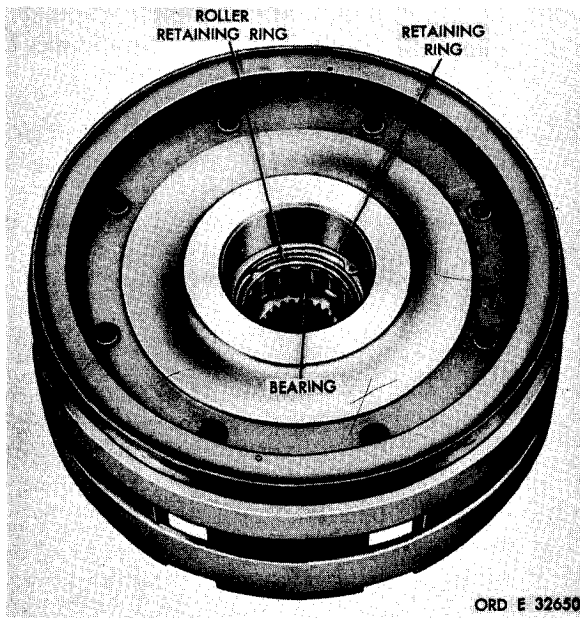

Figure 231. High-range clutch housing
i. Do not remove the roller bearing from the clutch housing, unless parts replacement is necessary. If necessary, remove the retaining ring and "hook" the bearing out (fig. 231).
Note. The bearing assembly will be destroyed if removed from the housing. The bearing rollers maybe removed by removing the roller retaining ring (fig. 231).
a. If the bearing was removed from the high-range clutch housing, install a new replacement. Press the bearing in until firmly seated in the housing. Install the retaining ring (fig. 231).
b. If only bearing rollers were removed from the clutch housing for cleaning, grease the rollers lightly and install in the bearing race. Install the roller retaining ring (fig. 231).